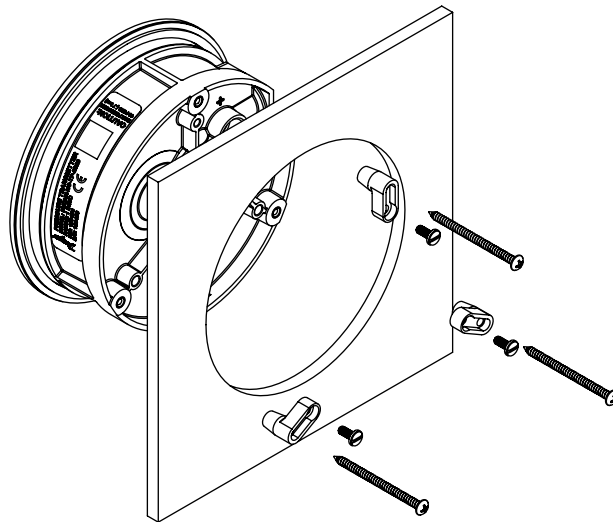

Figure 1: Panel mount
Step 2: Insert gage and secure in place with provided screws and mounting lugs as shown in Figure 1.